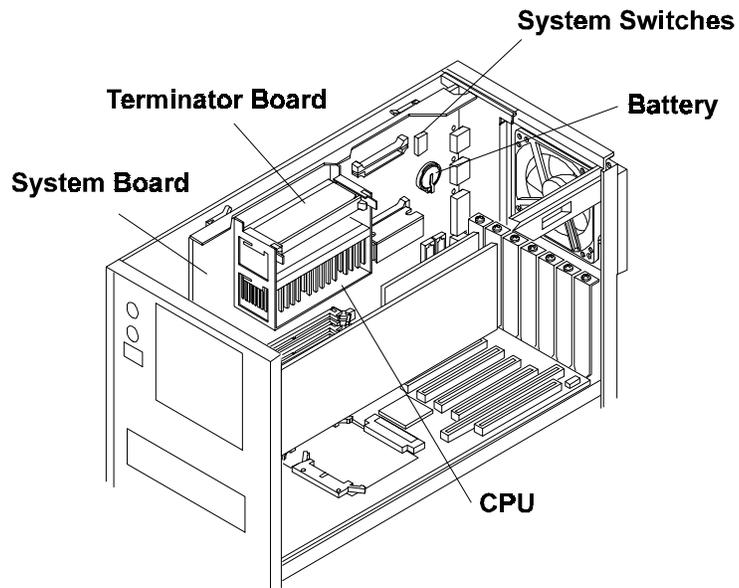

Figure 6-2. Battery on System Board
3. Remove the old battery, which is shown in Figure 6-2.
7. Remove the old battery, which is shown in Figure 6-2.